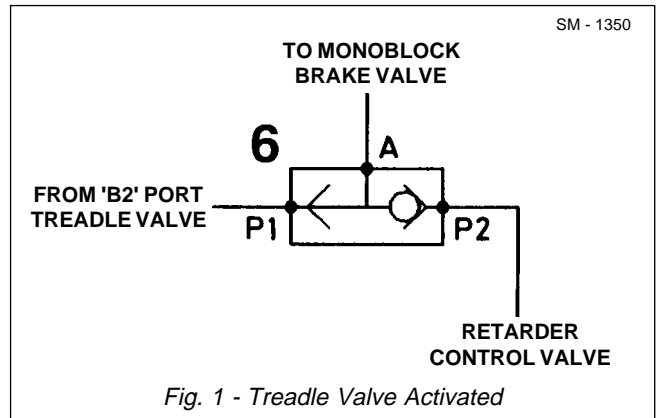

Fig. 1 - Treadle Valve Activated
Numbers in parentheses refer to Fig. 1.
1. Apply a small bead of Loctite 518 gasket compound, or equivalent, to the top of valve body (18) sub-assembly.
2. Install actuator sub-assembly on top of valve body (18) sub-assembly with the valve porting facing as shown in Fig. 1.
3. Secure actuator sub-assembly to valve body sub-assembly with capscrews (33). Tighten capscrews (33) to a torque of 20 - 21 Nm (180 - 190 lbf in).
4. Adjust set screw (27) on top of housing (22) inward until the pressure begins to rise. Measure lever (36)
Letters in parentheses refer to Fig. 1.
Refer to Fig. 1. On application of the treadle valve, hydraulic oil, up to a maximum pressure of 52 bar (750 lbf/in²), acts on port 'P1'. This pressure pushes the spool across to close port 'P2'. Oil pressure flows through port 'A' to the monoblock brake valve mounted off the left hand frame rail. Refer to Section 250-0100, MONOBLOCK BRAKE VALVE.
Numbers in parenthesis refer to Fig. 1.